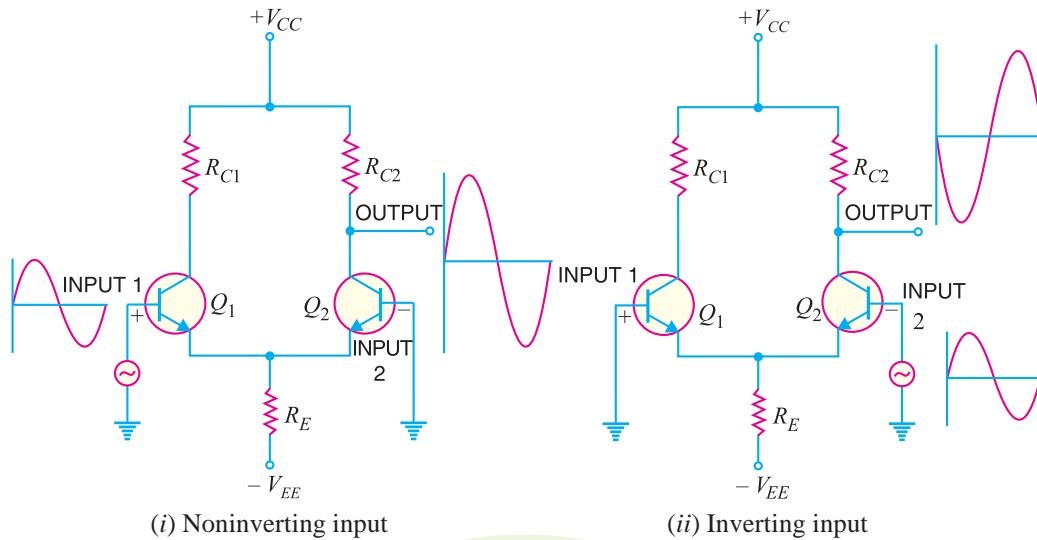

Fig. 25.7
- (b) When only one output terminal is available, the phase of the output of single-ended input DA depends on which input receives the input signal. This is illustrated in Fig. 25.7.
When signal applied to the input of DA produces no phase shift in the output, it is called *non-inverting input* [See Fig. 25.7 (i)]. In other words, for noninverting input, the output signal is in phase with the input signal. When the signal applied to the input of DA produces 180° phase shift, it is called *inverting input* [See Fig. 25.7 (ii)]. In other words, for inverting input, the output signal is 180° out of phase with the input signal. Since inverting input provides 180° phase shift, it is often identified with $-$ sign. The noninverting input is then represented by $+$ sign. It may be noted that terms noninverting input and inverting input are meaningful when only one output terminal of DA is available.
* Note that in Fig. 25.7, the noninverting input terminal is given the +ve sign while the inverting input terminal is given the $-$ ve sign.